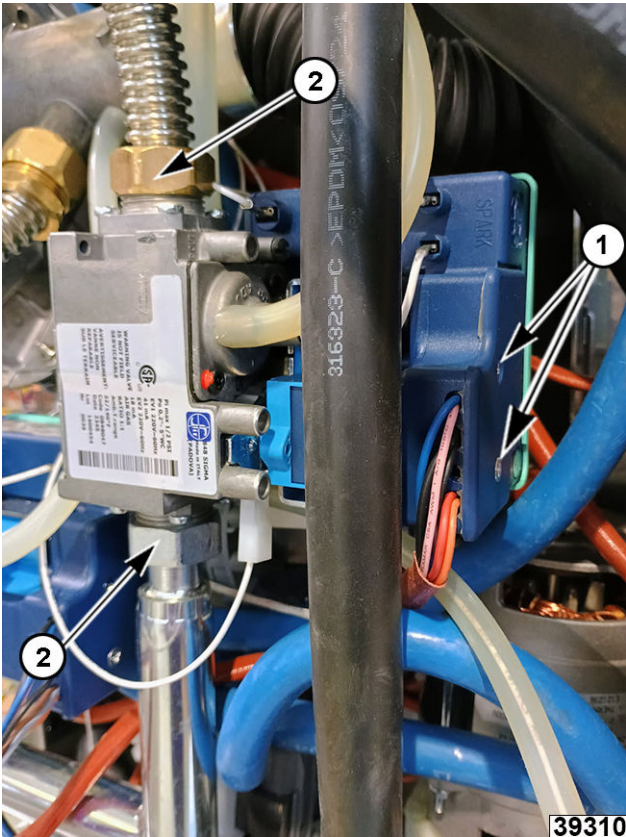

Fig. 105
2. Note and disconnect gas lines (2, Fig. 105) from gas valve.